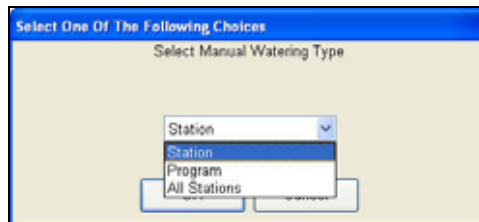

Figure 7.1.7
9. Select watering type. Click **OK** (Figure 7.1.7).